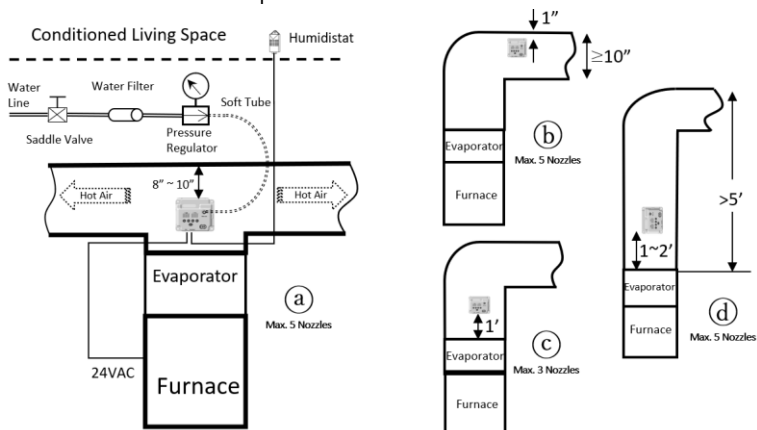

Fig. 1 Installation Locations
There are many different furnace plenum and duct settings. As shown in Fig.1 ① the best mounting location is above the evaporate coil of an AC for a "T"-shaped supply duct. Other possible locations are showed in ② ~ ④. A good location allows installing as many as possible spray nozzles and all the water mist would not reach the duct walls. Please note:
To get an accurate and stable humidity reading, it is recommended that the humidistat be located inside living space within 10 feet of the humidifier unit (see illustration in Fig. 1). The humidistat housing can be fixed on a wall or cabinet. Avoid direct sunshine or areas with abnormal humidity. Push the 3-way female connector into the male connector at the bottom of the humidifier. Please note:
Please refer to the illustrations in Fig. 1 ① for the water line connection. Install a 1/4" saddle valve (not provided) to a hot or cold-water line, connect an inline water filter (not provided) before connecting to the water pressure regulator provided. Users must preassemble the in/outlet connectors and the dial meter to the regulator body at first by using PTFE tape or pipe thread sealant to ensure leak-free connections.